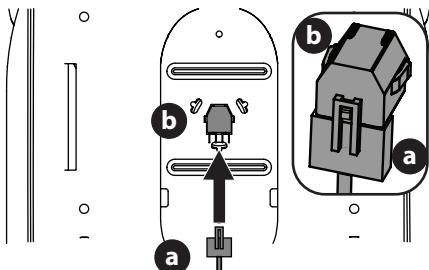

Figure 6
3. If necessary, securely connect the seat switch wiring harness (a) to the seat switch (b) (Figure 6). Secure excess wire away from pinch points before continuing.